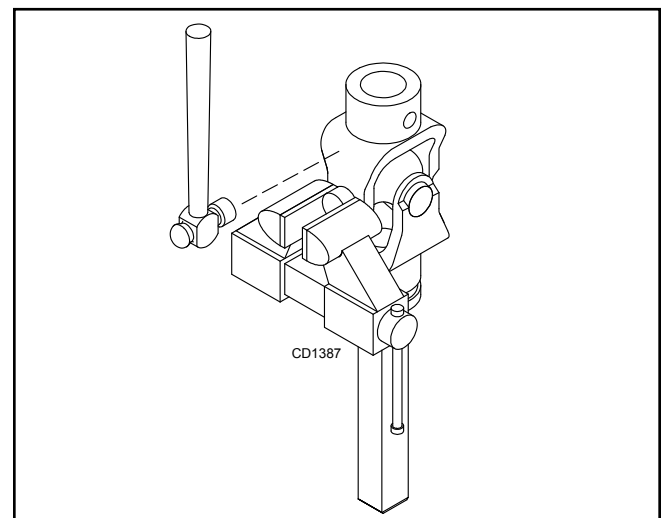

Figure 20.
3. Clamp cup in vise as shown in Figure 20 and tap on yoke to completely remove cup from yoke. Repeat Step 2 & Step 3 for opposite cup.